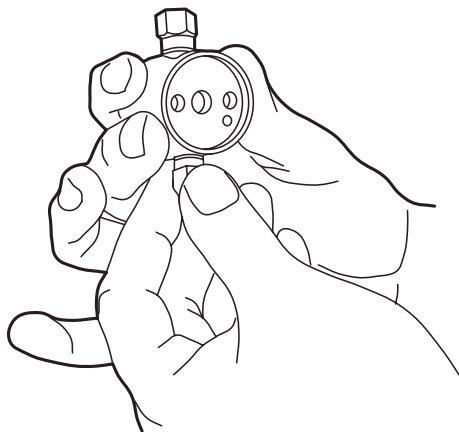

Figure 4-10 Removing the Outlet Check Valve
9. Hold the pump head upside-down in one hand with the outlet check valve housing facing the floor, then remove the housing (see Figure 4-10).